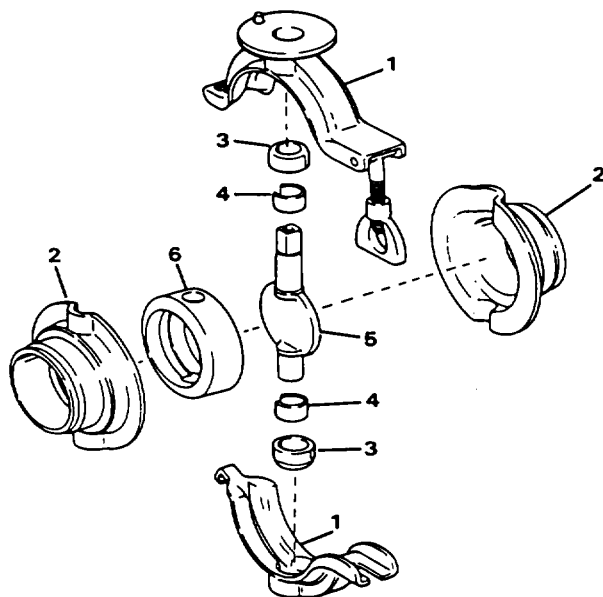

Figure 4-53. Butterfly Valves
- (9) Remove mounting bracket (13).
- (10) Tag and disconnect two wires from solenoid coil (14).
- (11) Remove two screws (15) and remove two switch assemblies (16) from bracket (13).
- (12) Remove capscrew (17), washer (18), swivel connector (19), fitting (20), air line (21), washer (22), nut (23) and wave washer (24) from top of solenoid coil (14).
- (13) Remove solenoid coil (14).
(14) Remove two screws (25) and remove solenoid valve (26).
(15) Remove preformed packing (27).
(16) If necessary, remove plug (28) and fitting (29).
c. Refer to Figure 4-53 and disassemble the butterfly valve as follows:
(1) Remove two clamp halves (1) from body valve halves (2) and separate the two body halves.
(2) Remove bushings (3) and bushings (4) from disc and shaft (5).
(3) Remove valve liner (6).
b. Replace all damaged, missing or unserviceable parts of butterfly valves (Figure 4-53).
a. Refer to Figure 4-53 and reassemble butterfly valve as follows:
(1) Position valve liner (6), bushing (4) and bushing (3) on disc and shaft (5).